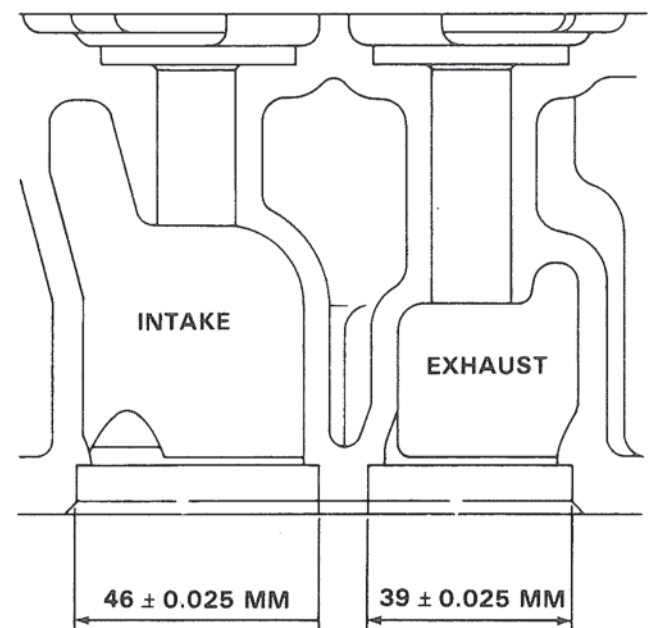

Figure 26. Valve Seat Cavity Dimensions.
- C. Measure I.D. of valve seat cavity. Figure 26.